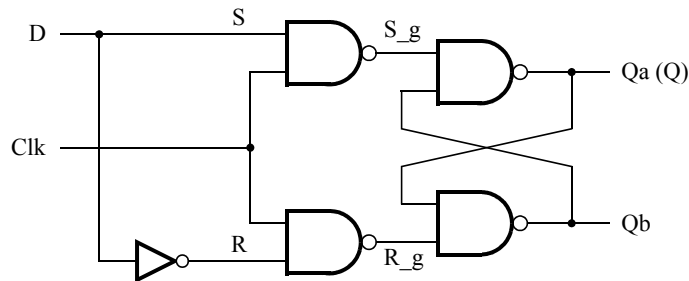
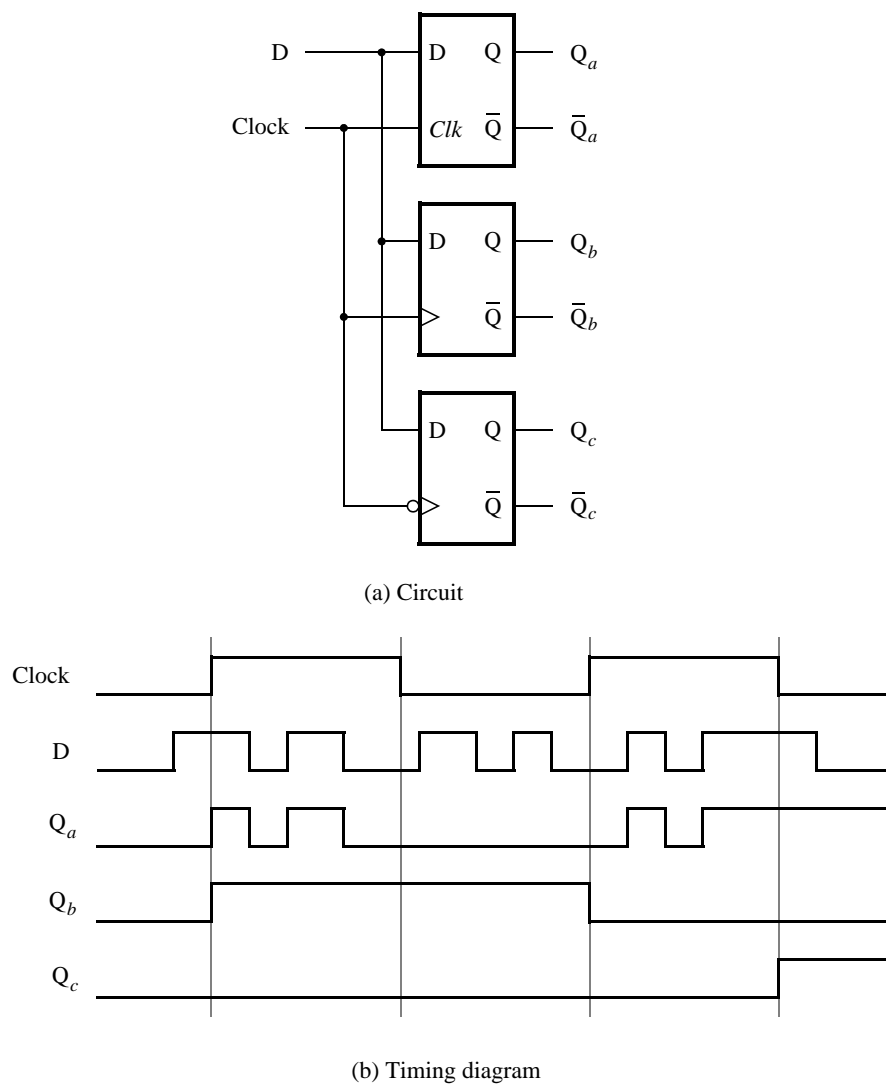

Figure 4. Circuit for a gated D latch.
Figure 6. Circuit and waveforms for Part IV.
Figure 4 shows the circuit for a gated D latch.
Figure 6 shows a circuit with three different storage elements: a gated D latch, a positive-edge triggered D flip-flop, and a negative-edge triggered D flip-flop.
2. Write a VHDL file that instantiates the three storage elements. For this part you should no longer use the *keep* directive (that is, the VHDL ATTRIBUTE statement) from Parts I to III. Figure 7 gives a behavioral style of VHDL code that specifies the gated D latch in Figure 4. This latch can be implemented in one 4-input lookup table. **Use a similar style of code to specify the flip-flops in Figure 6.**
4. Create a Vector Waveform File (.vwf) which specifies the inputs and outputs of the circuit. Draw the inputs *D* and *Clock* as indicated in Figure 6. Use functional simulation to obtain the three output signals. Observe the different behavior of the three storage elements.